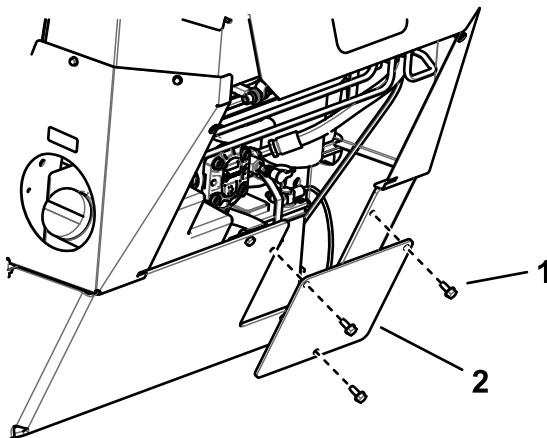

Figure 37
- Install the battery-access panel (Figure 37).